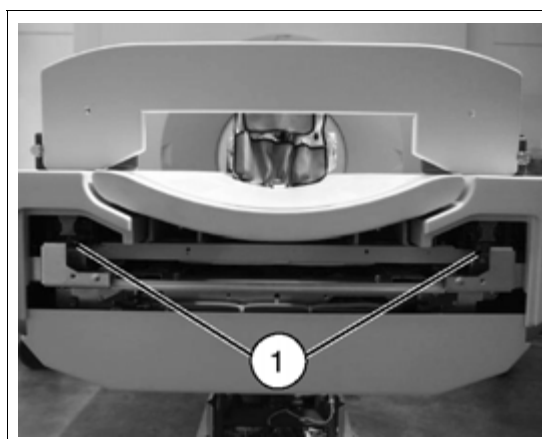

Fig. 5: Linear guides of the tabletop (foot-end of table)
- Place the connector of the lubricant gun on one of the lubrication fittings of the guide rail to be lubricated (1/ Fig. 5 / p. 28).